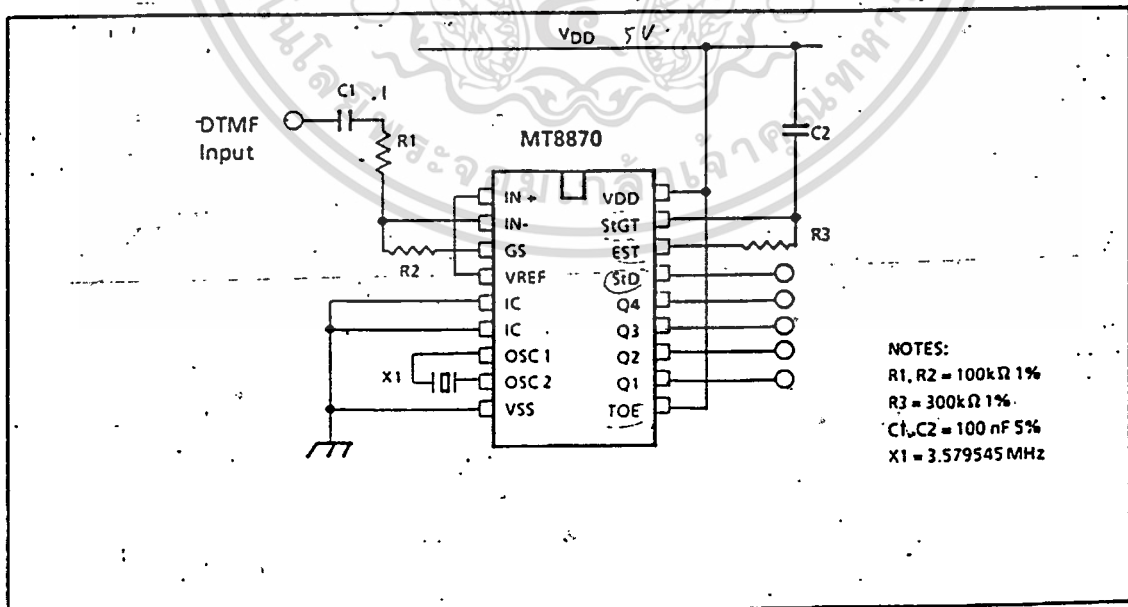
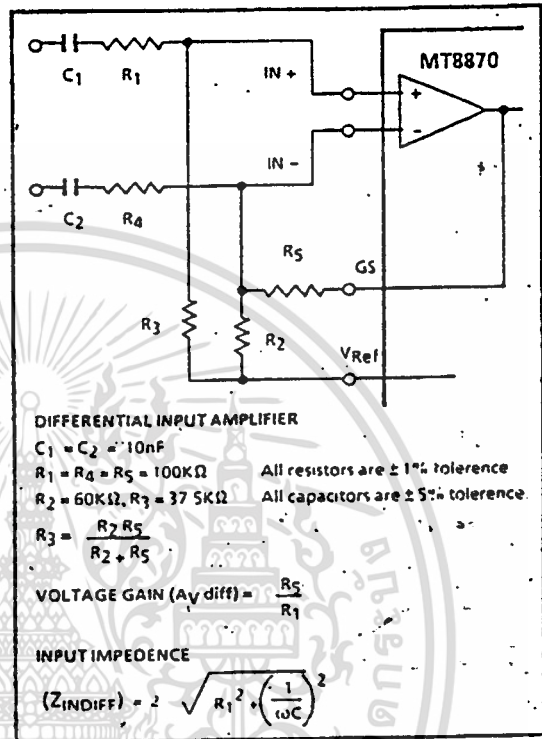
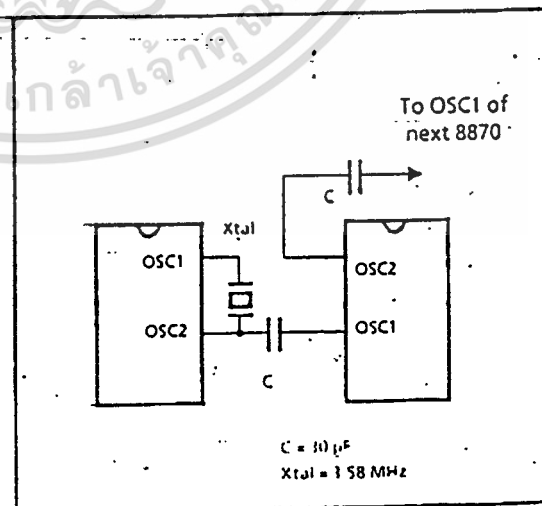

Figure 2. Single Ended Input Configuration
Figure 8. Differential Input Configuration
Figure 9. Oscillator Connection
[†] V_{DD} = 5 V, V_{SS} = 0, T_A = 25° C and f_c = 3.579545 MHz using test circuit shown in Figure 2
†VDD = 5V, VSS = 0V TA = 25°C and $f_c = 3.579545$ MHz, using test circuit in Figure 2.
The input arrangement of the MT8870 provides a differential-input operational amplifier as well as a bias source (V_{Ref}) which is used to bias the inputs at mid-rail. Provision is made for connection of a feedback resistor to the op-amp output (GS) for adjustment of gain. In a single-ended configuration, the input pins are connected as shown in Fig. 2 with the op-amp connected for unity gain and V_{Ref} biasing the input at $\frac{1}{2}V_{DD}$. Fig. 8 shows the differential configuration, which permits the
The internal clock circuit is completed with the addition of an external 3.58 MHz crystal and is normally connected as shown in Figure 2 (Single Ended Input Configuration). However, it is possible to configure several MT8870 devices employing only a single oscillator crystal. The oscillator output of the first device in the chain is coupled through a 30 pF capacitor to the oscillator input (OSC1) of the next device. Subsequent devices are connected in a similar fashion. Refer to Fig. 9 for details. The problems associated with unbalanced loading are not a concern with the arrangement shown, i.e; precision balancing capacitors are not required.